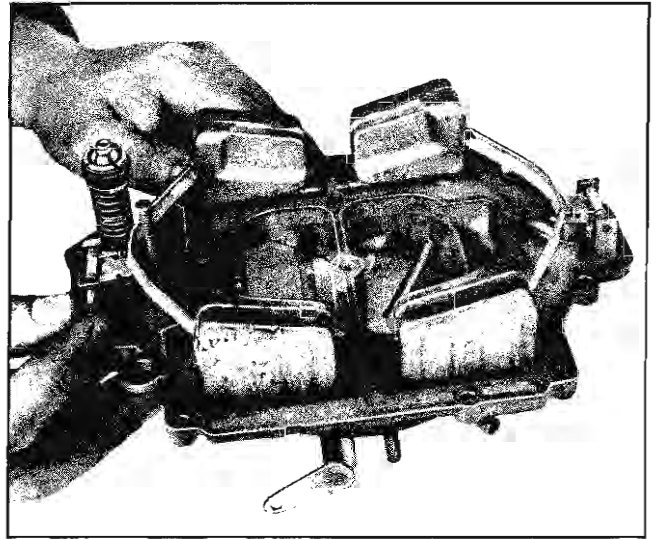

Fig. 6B-44 Removing Float Hinge Pin
**NOTE:** Method by which spring is installed (Fig. 6B-45).